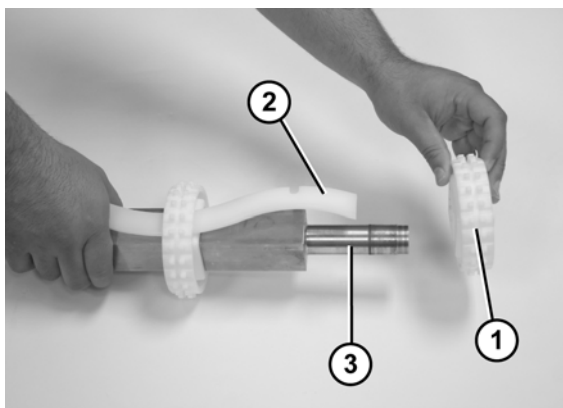

Figure 65
- Slide the sprockets (**Figure 65, item 1**) and the sprocket alignment bar (**Figure 65, item 2**) off of the drive spindle (**Figure 65, item 3**).